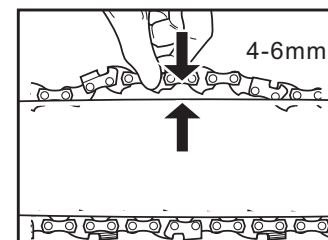
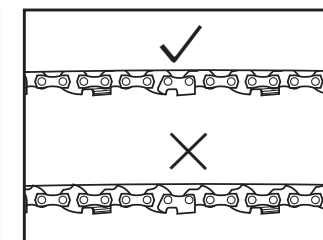

Fig. 15A
Fig. 15B
4. Check the tension level by pulling the chain 4-6mm away from the guide bar with light force (Fig.15A). Your chain is at the correct level of tension if there is no “sag” between the guide bar and chain. ( Fig. 15B)